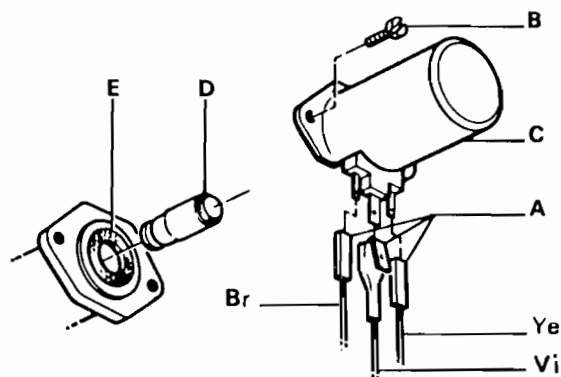

Fig. 19
**Section 10 : To replace the solenoid armature and coil (R.H.S. of gas valve) Fig. 19**
- (a) Ensure armature is replaced with the O. ring D in the correct position as shown in Fig. 19.
- (c) Ensure that the electrical connections are correctly replaced (See Fig. 19).